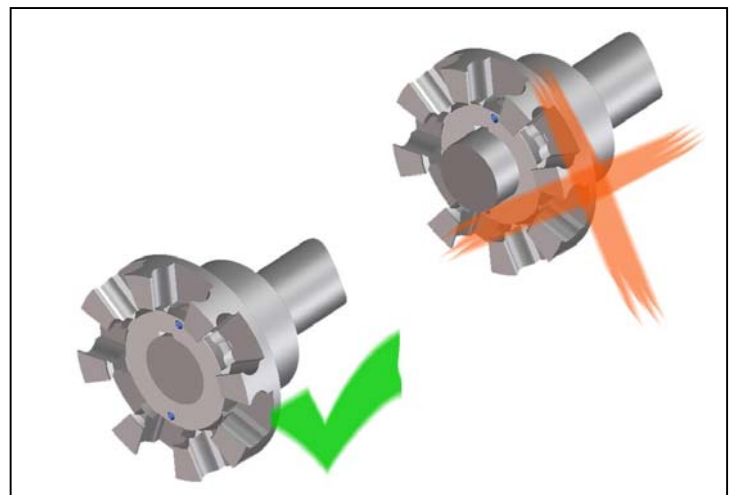

Fig. 4
- Mount the hubs in such a manner that the shaft end is flush with the inner bore openings (Fig. 4). Observe deviant agreements, which may exist.